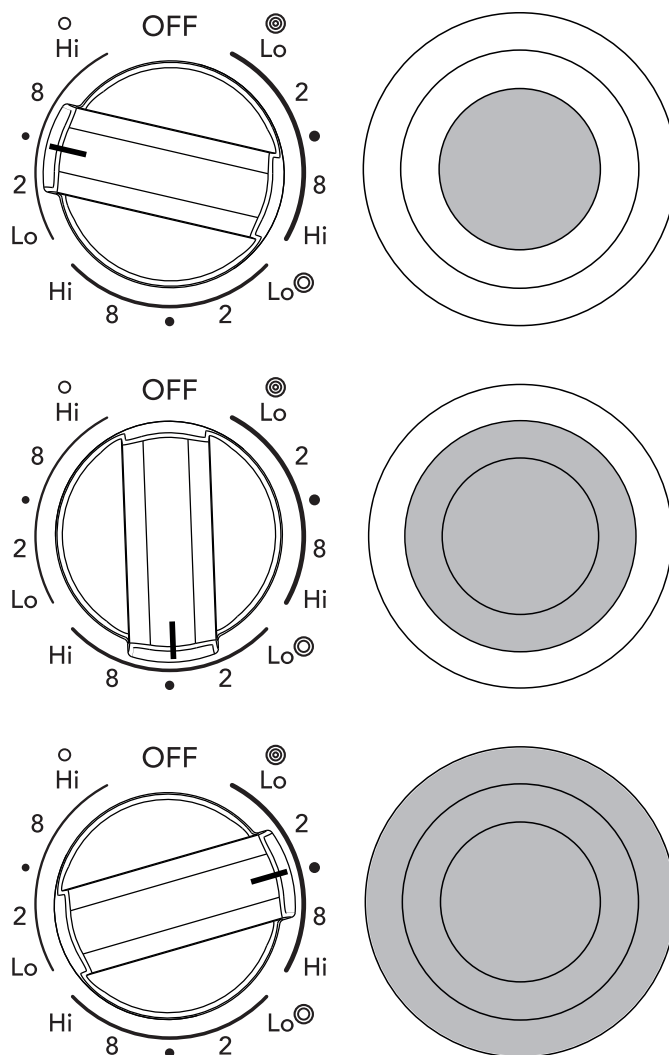

Figure 9: Triple element knob settings
Symbols around the knob are used to indicate which element of the triple radiant element will heat. The ○ symbol indicates that only the inner element will heat. The ◎ symbol indicates that the inner and middle elements will heat. The ⊕ symbol indicates that the inner, middle and outer elements will heat (Figure 9). You may switch the element setting at any time during cooking.
2. Push in and turn the control knob to the inner element symbol for smaller cookware or to the inner and middle element symbol for average cookware or to the inner, middle, and outer element symbol for large cookware (Figure 9). Turn the knob to adjust the setting if needed.